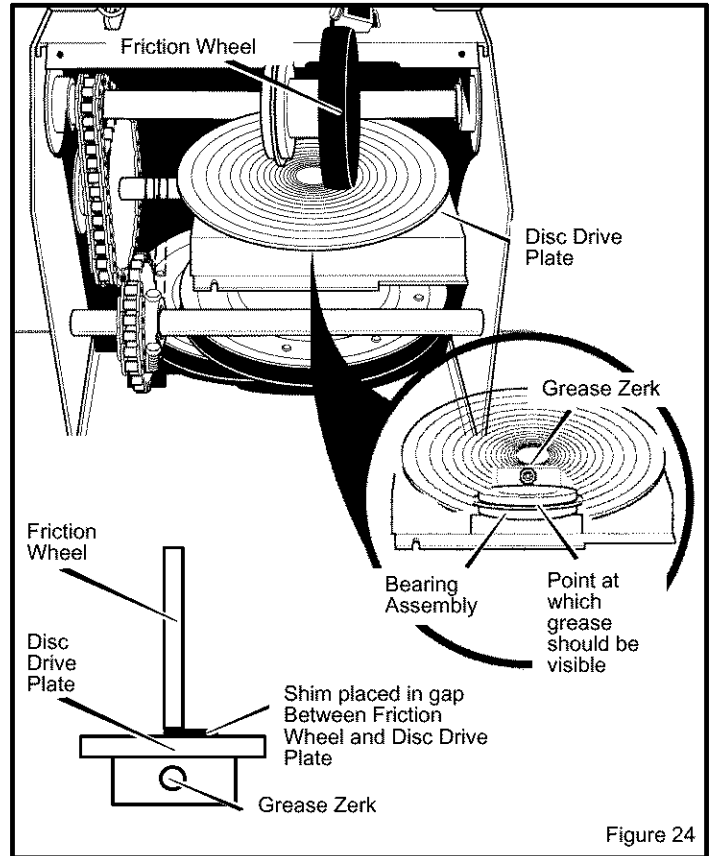

Figure 24
3. Position speed selector lever in first (1) forward gear.
6. Turn disc drive plate clockwise by hand until grease zerk is clearly visible at front center (see Figure 24).
7. Place a coin or (a **shim of equal thickness**) between the rubber friction wheel and disc drive plate to prevent rubber friction wheel contacting the drive disc (see Figure 24).
8. To grease zerk, use a hand grease gun, lubricate with a Hi Temp EP Moly grease. See inset of Figure 24. **DO NOT** over fill or allow grease to come in contact with the disc drive plate or friction wheel or damage will result. Fill zerk only until grease becomes visible below bearing assembly located under grease zerk.